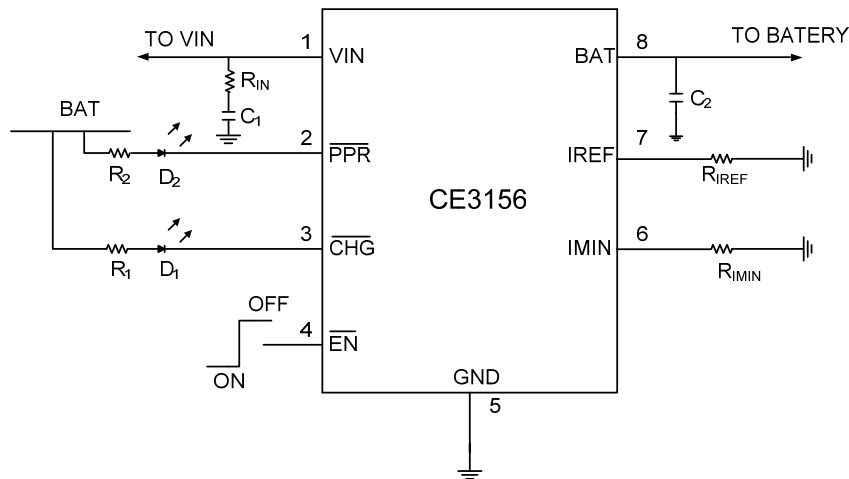
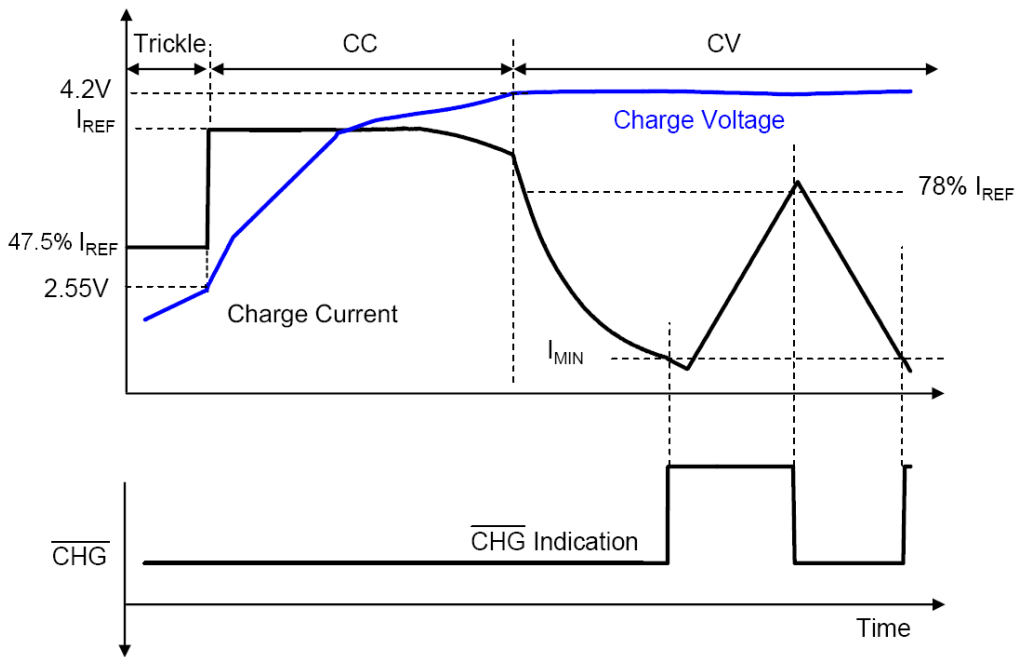

Figure1 Typical Application Circuit Interfacing to Indication LEDs
Figure3 Typical Charge Profile
COMPONENT DESCRIPTION FOR Figure1
The CE3156 charges a Li-Ion battery using a CC/CV profile. The constant current I_{REF} is set with the external resistor R_{IREF} (see Figure 1) and the constant voltage is fixed at $4.2V$ or $4.35V$. If the battery voltage is below a typical $2.55V$, or
4.2V or 4.35V. When the battery voltage reaches 4.2V or 4.35V, the charger enters a CV mode and regulates the battery voltage at 4.2V or 4.35V to fully charge the battery without the risk of over charge. Upon reaching an full-of-charge (FOC) current, the charger indicates the charge completion with the CHG pin, but the charger continues to output the 4.2V or 4.35V voltage. Figure 3 shows the typical charge waveforms after the power is on.
The FOC current level I_{MIN} is programmable with the external resistor R_{MIN} (see Figure 1). The CHG pin turns to low when the trickle charge starts and rises to high impedance at the FOC. After the FOC is reached, the charge current has to rise to typically 78% of I_{REF} for the CHG pin to turn on again, as shown in Figure 3. The current surge after FOC can be caused by a load connected to the battery.
The PPR pin is an open-drain output to indicate the presence of the AC adapter. Whenever the input voltage is higher than the POR threshold, the PPR pin turns on the internal open-drain MOSFET to indicate a logic low signal, independent on the EN pin input. When the internal open-drain FET is turned off, the \overline{PPR} pin leaks less than 20µA current. When turned on, the \overline{PPR} pin is able to sink at least 15mA current under all operating conditions. The \overline{PPR} pin can be used to drive an LED (see Figure 1) or to interface with a micro-processor.
IMIN is the end of charge current when $\overline{\text{CHG}}$ indicates a full of charge condition. All current out of the CE3156 BAT pin should be counted into IMIN, including load current and the indication LED currents. As illustrated in Figure 3, the CE3156 continues to supply current unless it is disabled by $\overline{\text{EN}}$ pulled high, regardless of the status of $\overline{\text{CHG}}$ pin. When charge current ever goes lower than IMIN, $\overline{\text{CHG}}$ pin stays high impedance until the charge current goes higher than 78% of IREF, which is another factor to consider in design of IREF, IREF should be high enough to so that 78% of IREF is higher than the